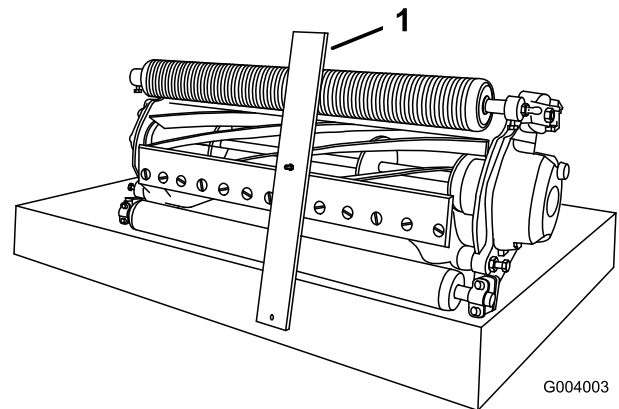

Figure 15
2. Hook the bolt head of the height-of-cut gauge onto the right side of the cutting edge of the bedknife and rest the rear end of the bar onto the rear of the roller (Figure 15).